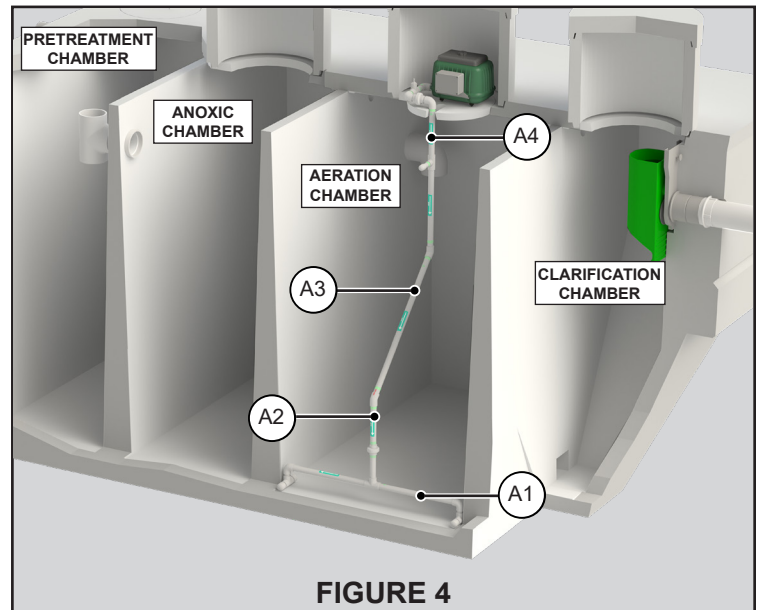

FIGURE 4
1. Remove all packaging from the plumbing assemblies labeled "AIR". Attach diffuser bar A1 to subassembly A2 at union as shown in Figure 4. Securely tighten union by hand.
2. Solvent weld subassembly A2 to subassembly A3 as shown in Figure 4. Insure red arrows are aligned.
3. Solvent weld subassembly A3 to subassembly A4 as shown in Figure 4. Insure blue arrows are aligned.
4. Install this entire assembly into aeration chamber by bending the flexible tubing. Lower assembly into the tank until the diffuser bar contacts both the floor and side wall of the tank as shown in Figure 4.
6. Install the air pump in the aeration chamber riser on the support base (or in a clean, dry, well-ventilated area protected from the elements no more than 75' from the tank). Attach subassembly A4 to subassembly A5 at union as shown in Figure 4. Securely tighten union by hand.